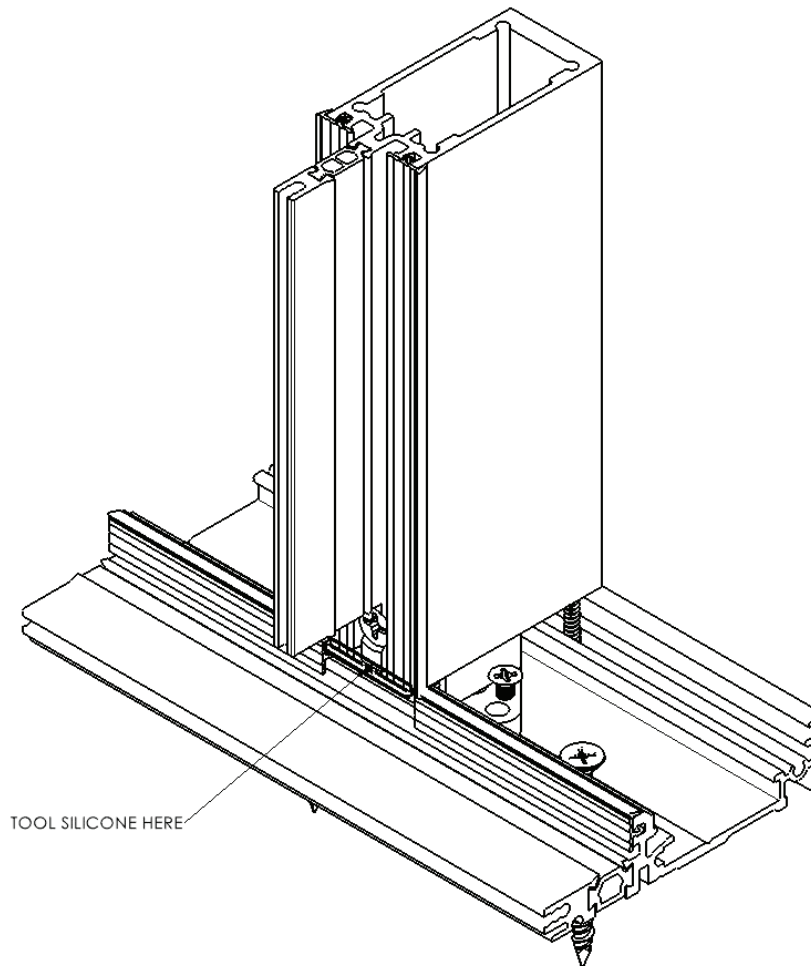

Figure 17
11. At each location where the weather strip joins at the intersection, and at each face where two frame members meet, apply a generous amount of Dow 795 sealant or equivalent and tool sealant to ensure a continuous watertight seal with no holes or voids. Apply and tool sealant over all vertical load screws and all assembly screws that penetrate the perimeter frame. See figure 17.